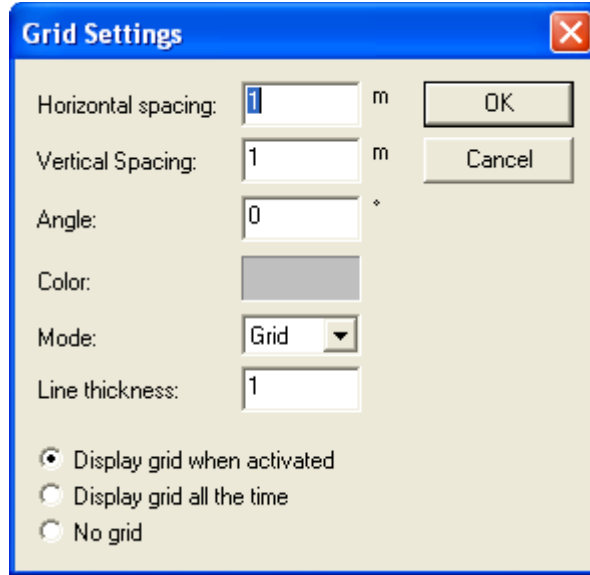

FIGURE 2.6-1 GRID SETTINGS DIALOG WINDOW
-  **Grid Settings (Fig. 2.6-1).** This tool opens the Grid Settings dialog box where grid spacing, angle and other parameters can be set.